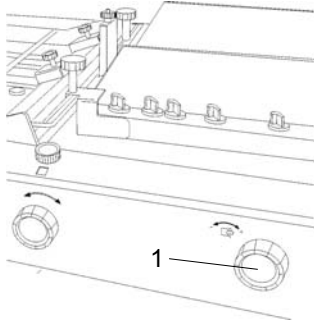

Fig. 9 Efficiency of vacuum
Vacuum can be modified by means of a regulating valve (Fig. 9/1). This is necessary because heavy paper grades require more vacuum than light paper grades. The vacuum can be modified by turning the knob (Fig. 9/1).
1. Close the valve (Fig. 9/1) for setting the minimum effect.
3. Slowly open the valve (Fig. 9/1) by turning the knob clockwise. Observe the sheet separation while doing this.